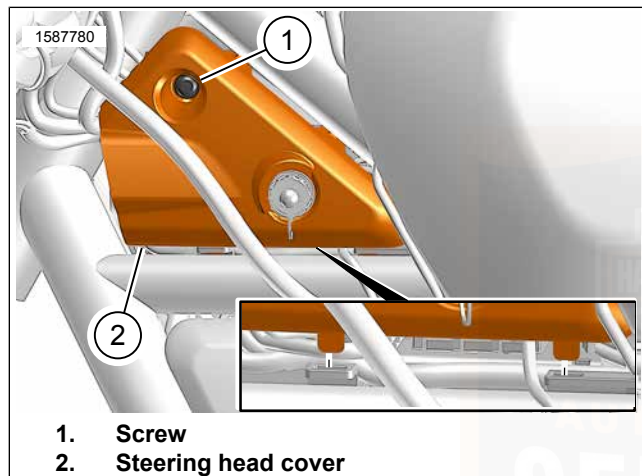

Figure 81. Steering Head Cover (left side typical)
1. See Figure 81. Remove screw (1).
2. Tip side cover (2) out slightly while lifting up.